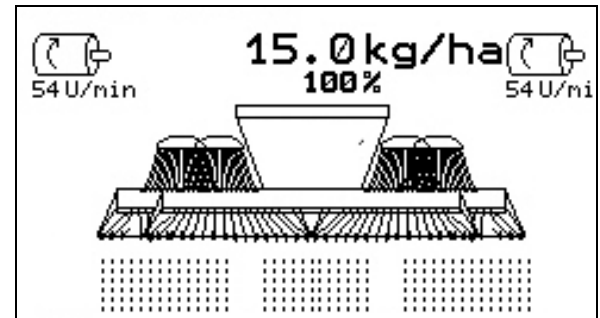

Fig. 52
- The predosing provides the coulter with seed for a specified running period (Fig. 52).